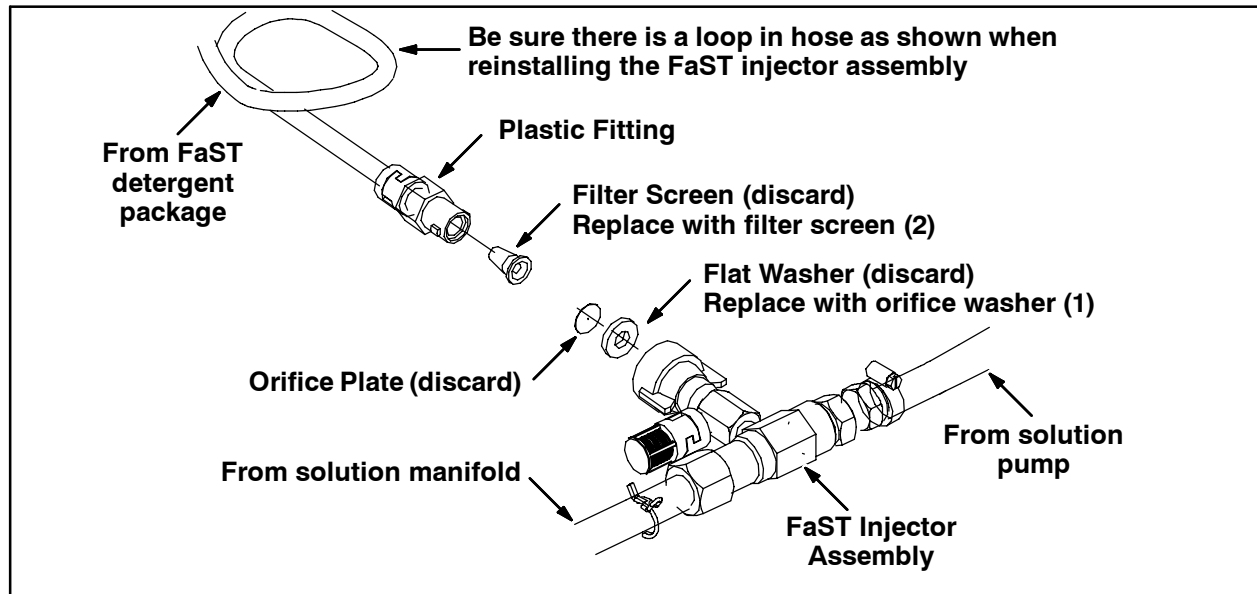

FIG. 2
2. Twist the plastic fitting from the FaST injector assembly. Refer to Fig. 2.
3. Remove the filter screen from inside the plastic fitting. Discard the filter screen. Refer to Fig. 2.
4. Remove the orifice plate and flat washer from inside the FaST injector assembly. Discard the orifice plate and flat washer. Refer to Fig. 2.
5. Insert the new filter screen (2) into the plastic fitting. Refer to Fig. 2.
6. Insert the new orifice washer (1) into the FaST injector assembly. Refer to Fig. 2.
7. Twist the plastic fitting back into the FaST injector assembly. Refer to Fig. 2.